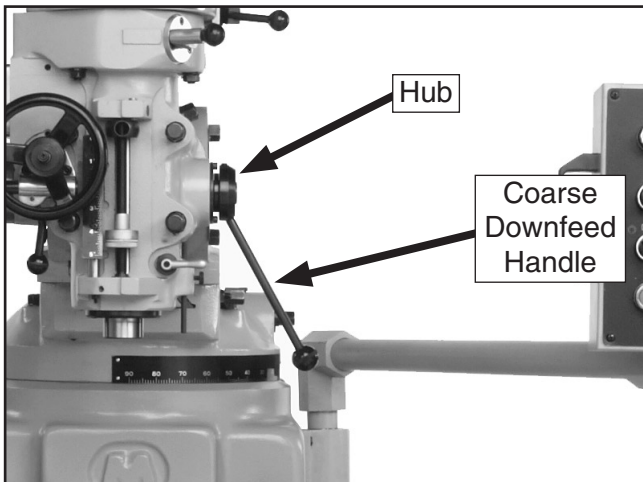

Figure 16. Coarse downfeed handle installed.
- Slip the coarse downfeed handle onto the shaft located on the right side of the head, as shown in **Figure 16**.